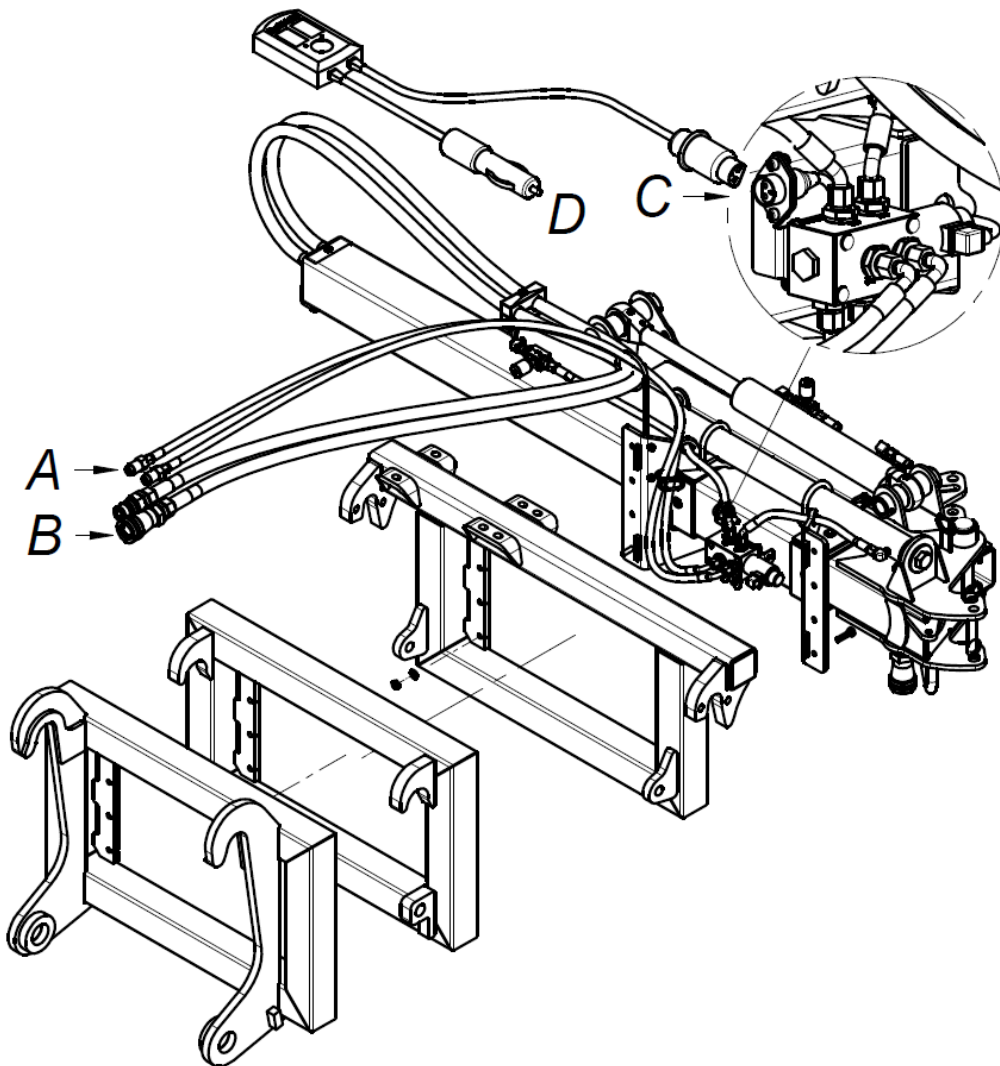

Fig. 8. The Fisher carrier connections
Due to hitch interchangeability, the Fisher carrier can be aggregated with various vehicles (Fig. 8). Ask manufacturer or your dealer on hitch availability.
After having mounted the carrier, connect hydraulic hoses (A) for side shift and tooling rotation supply and hoses (B) for work head supply (PT circular saw, PG branch grinder) (Fig. 8). Remember to adjust oil flow rate [L/min] to work head's demand – see Tab. 1.
The panel is used to choose a cylinder (either shift or rotation) to be operated with the vehicle's hydraulics. For panel installation description, see section 5.1 herein (**Fig. 8**).